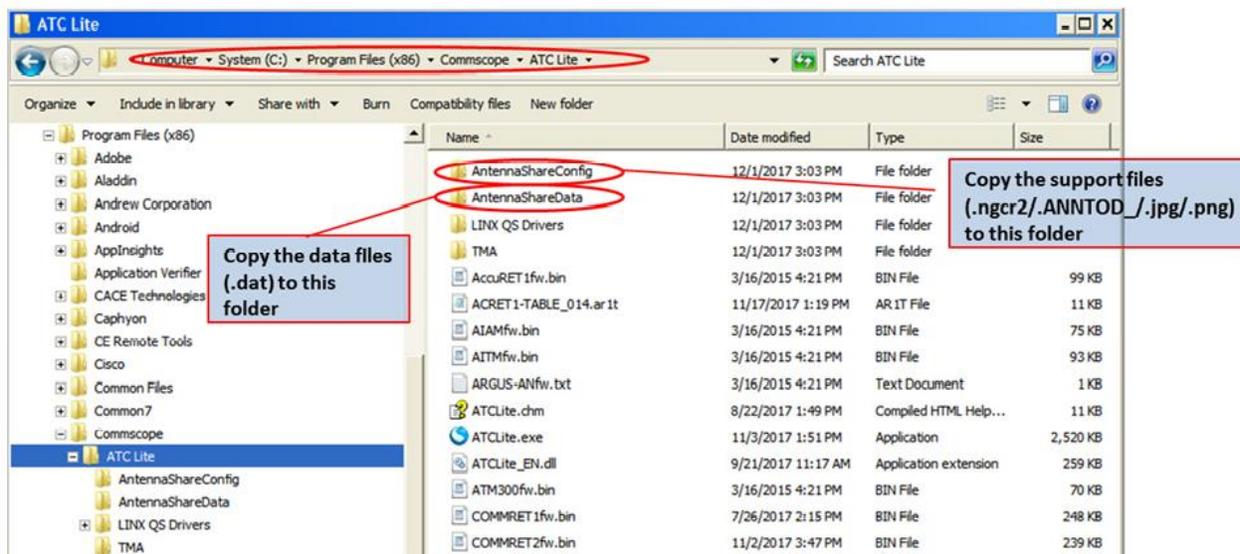

Figure 15-6. Folder locations to copy antenna sharing support and data files
2. From the saved location copy the files to the respective folder path as mentioned in the table below and shown in the figure 15-6.